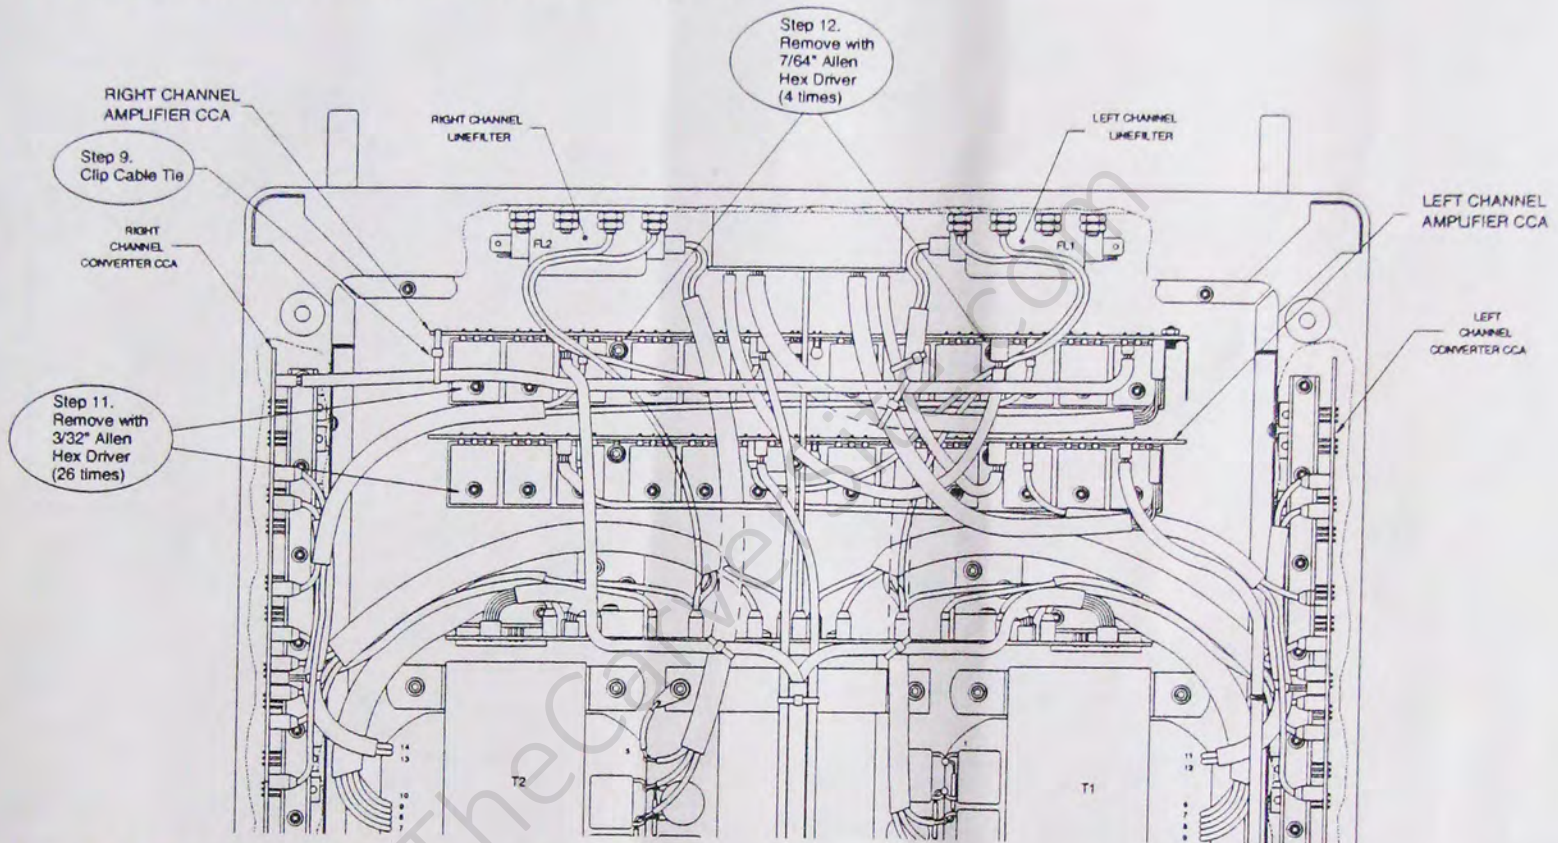

Figure 1 Lightstar Reference Assembly
9. Clip and remove 1 cable tie from the left corner of the rear Amplifier Board (see Figure 1).